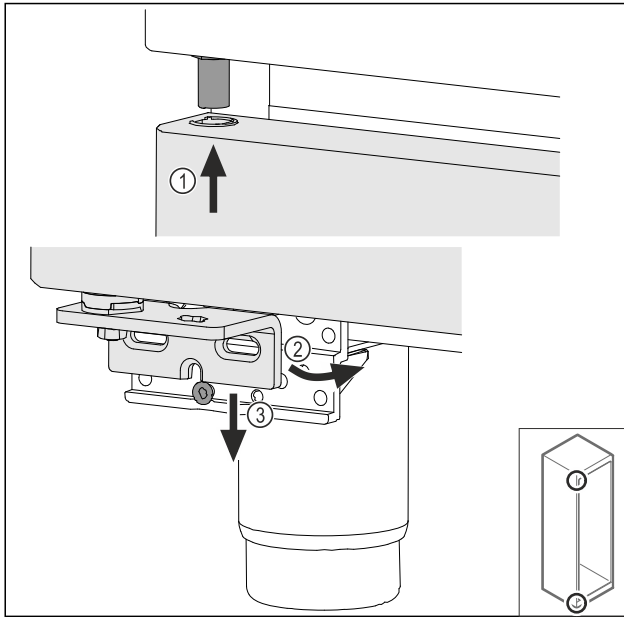

Fig. 49
- ▶ Insert the door slightly tilted at the top Fig. 49 (1), align the door straight Fig. 49 (2) and place it on the bottom of the swap bearing block screw Fig. 49 (3).